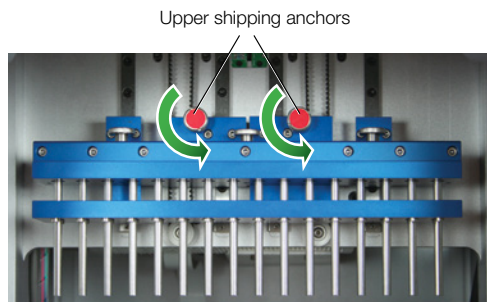

Figure 8. Upper shipping anchors.
3. Open the instrument door and locate the Magnetic Rod Assembly/Plunger Bar and Platform Shipping Anchor thumbscrews. (Figures 8 and 9). Remove them.